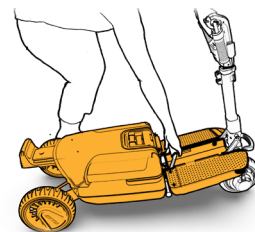

Figure 10
8. Gently move the handle down until ATTO's base is flat (see Figure 10).